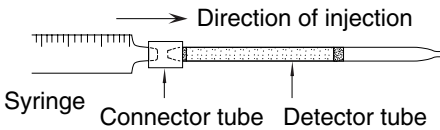

FIG. 2.24 INJECTION METHOD
- (1) The ion detector tubes, used for measuring the concentration of ions in the water, include tubes for sulphide, chloride, iron, cyanide, residual chlorine and salinity detector tubes. The concentration of an ion is measured by three different method as follows : (1) Injection method (see FIG. 2.24) : Sample solution taken by a syringe is injected into the detector tube.